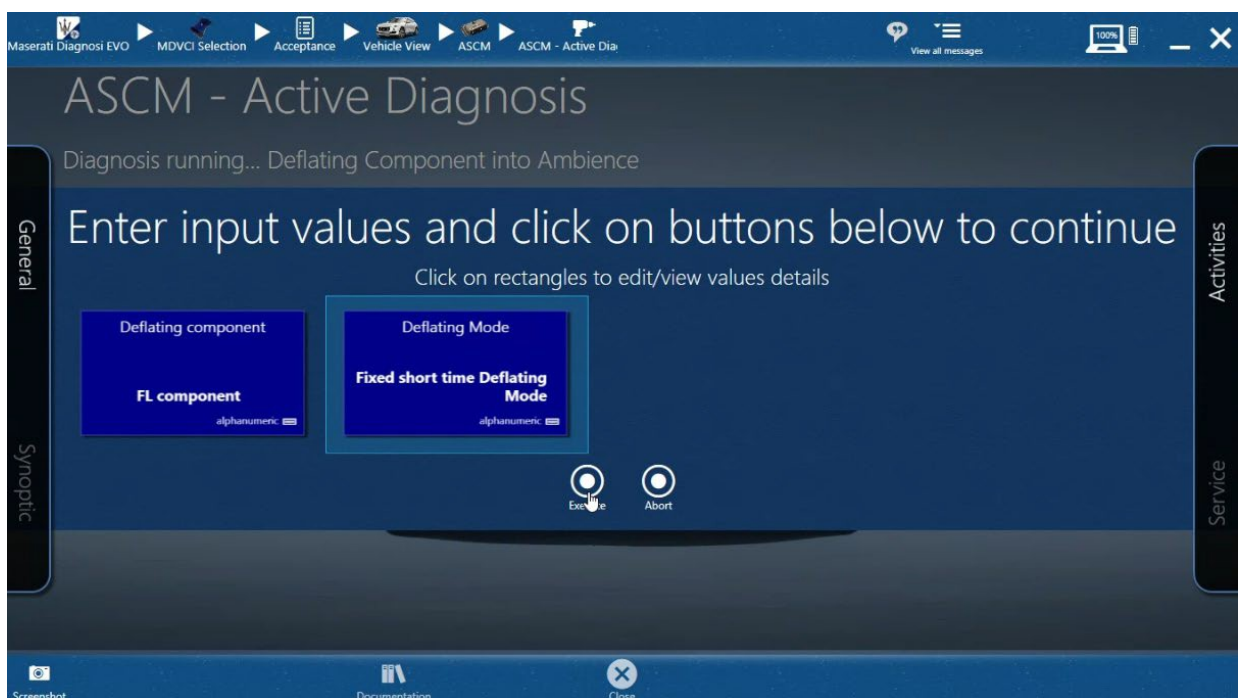

Figure 6: Active Diagnosis > Deflating Component into Ambience of the ASCM module.
- Deflating Mode: Fixed short time deflating mode, as in Figure 6.
- Deflating Component: one by one FL, FR, RL, RR, as in Figure 6.